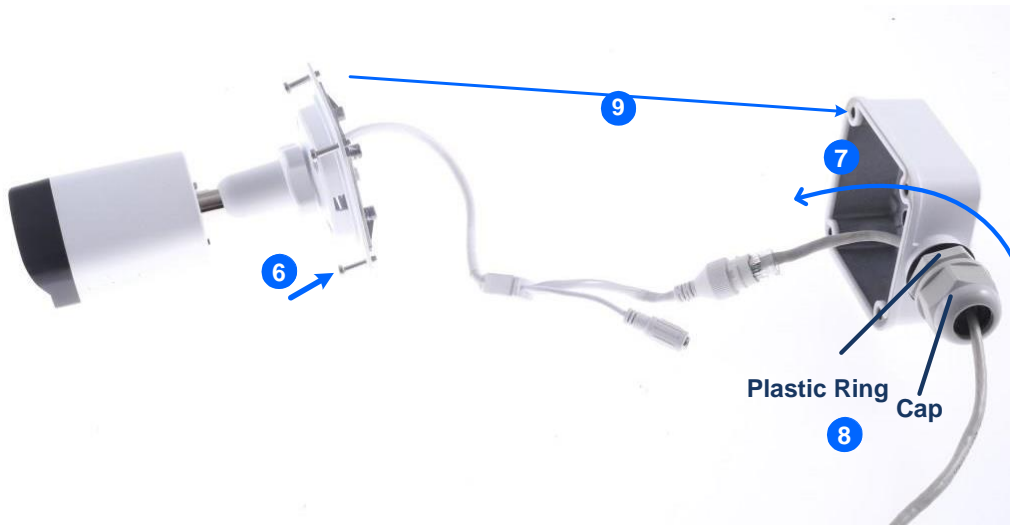

Figure 1-59
6. Secure the camera to the box cover with 4 short screws, as illustrated in No. 6, *Figure 1-59*.
7. Thread the Ethernet cable through the PG21 conduit connector and the wall box, as shown in No. 7, *Figure 1-59*. Then connect the cable to the camera. To waterproof the Ethernet cable, see *1.10 Waterproofing the Cable*.
8. Rotate the plastic ring to secure the conduit connector to the wall box. Screw in the cap, as shown in No. 8, *Figure 1-59*.
9. Screw the box cover to the wall box, as shown in No. 9, *Figure 1-59*.